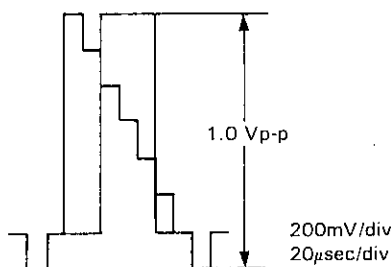

Figure 2-6.
2. Feed the colour bar signal (stair-case waveform) to the video input terminal. Observing the voltage across the terminal resistor of the video output terminal on the oscilloscope screen, adjust R201 (EE level control) to obtain the value indicated in Fig. 2-6.
6. Repeat the above step 5 to finally get the playback video signal level at 1.0 ± 0.05 Vp-p, as shown in Fig. 2-6.